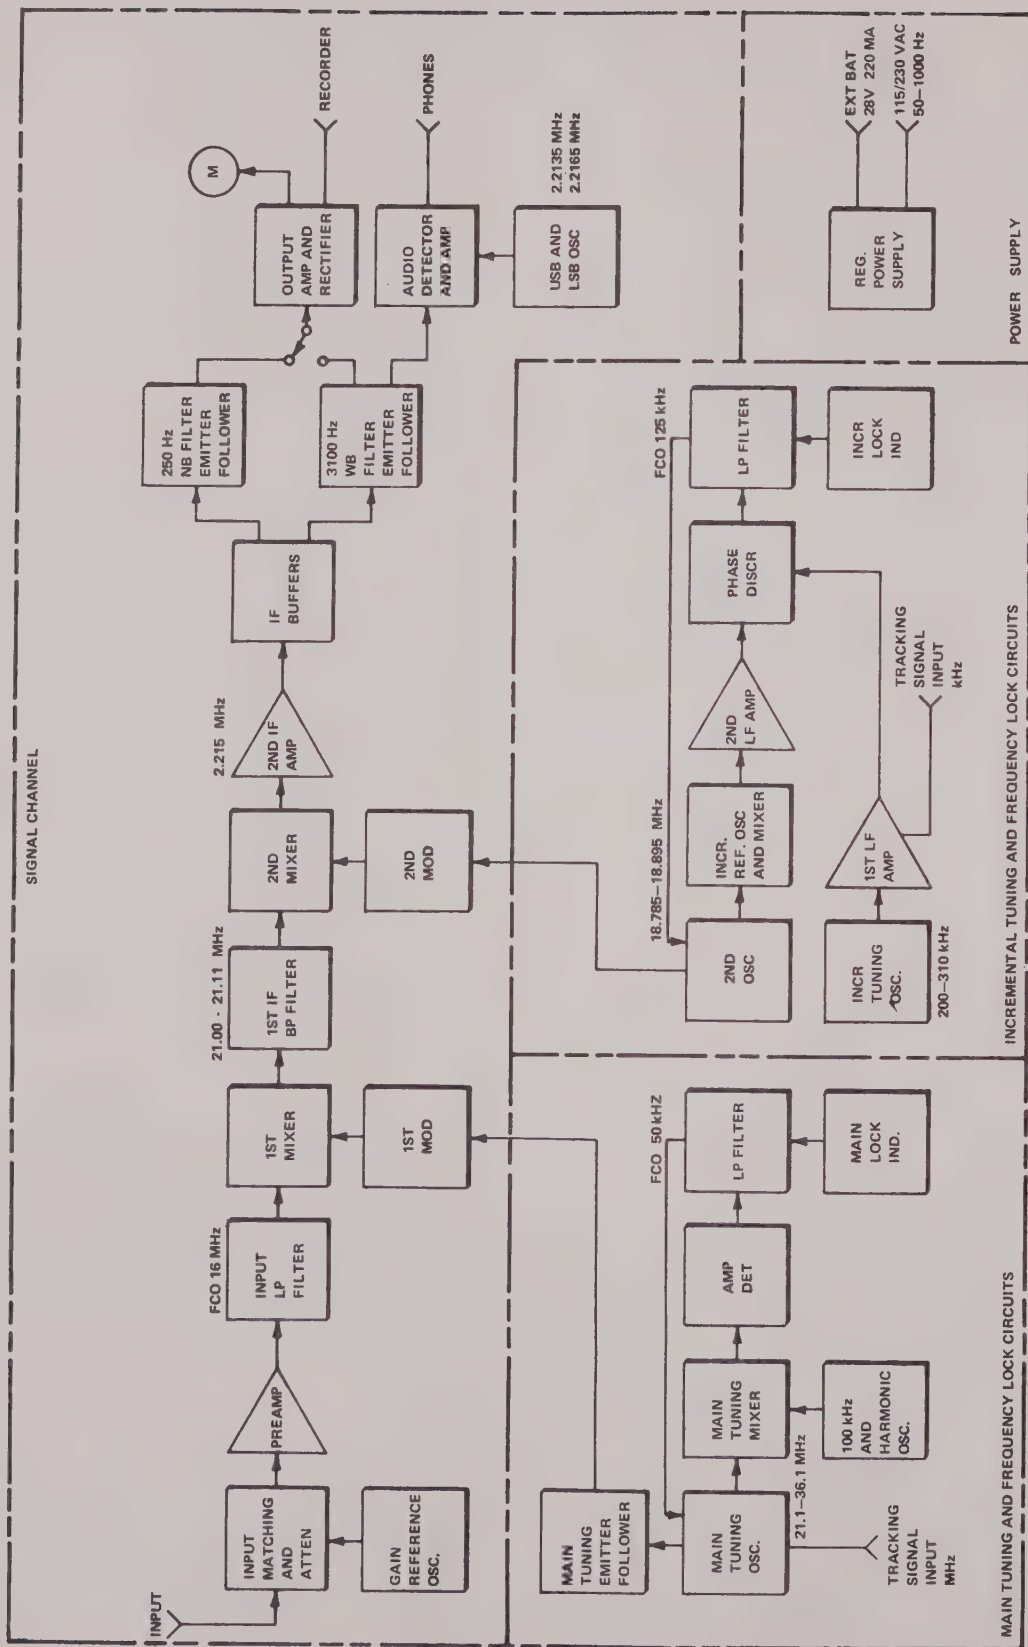

Figure 3-1. Sierra 128A Functional Block Diagram
3.02 The 128A circuitry is divided into three principal sections: the signal channel, the main tuning and frequency lock circuits, and the incremental tuning and frequency lock circuits. Front panel controls are divided into similar groupings. Refer to the Functional Block Diagram, Figure 3-1 for relationships of the various circuits.
3.13 To provide for synchronous tuning of the 128A by means of a Tracking Signal Generator (Sierra 351A), input BNC connectors are mounted on the dial panels of both the main tuning oscillator and the incremental tuning oscillator. When connected, the Tracking Signal Generator takes the place of the main tuning oscillator and the incremental tuning oscillator. Control dc voltage from the Tracking Signal Generator actuates a relay within the 128A disabling the internal oscillator circuits and switching the tuning frequency control to the external generator. Tuning frequencies are fed to the stages shown in the Functional Block Diagram, Figure 3-1.